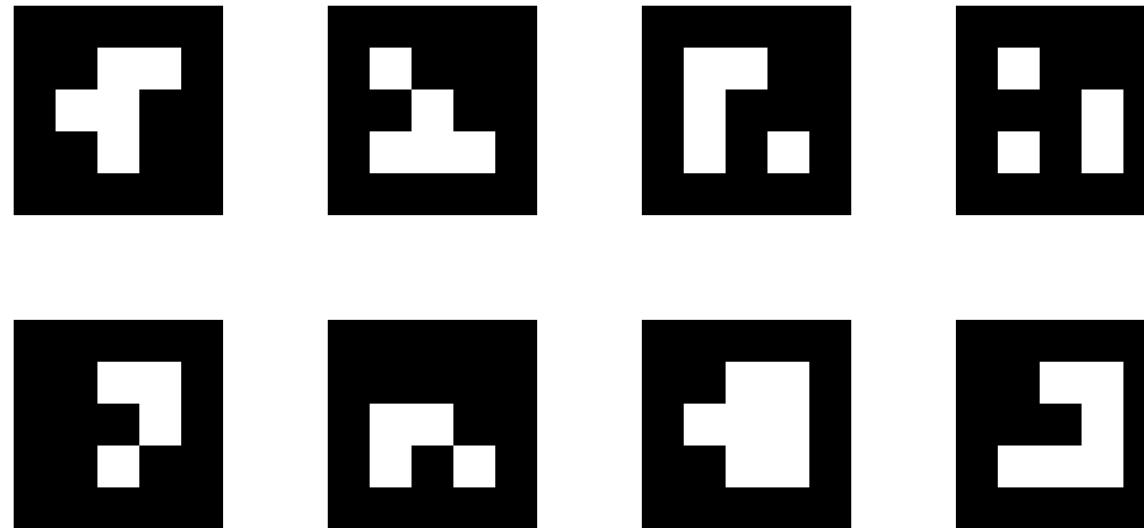

Figure 1: AruCo markers for cars and coordinate frame.
- Print the markers in Fig. 1 on a snow-white, 80 grams paper.